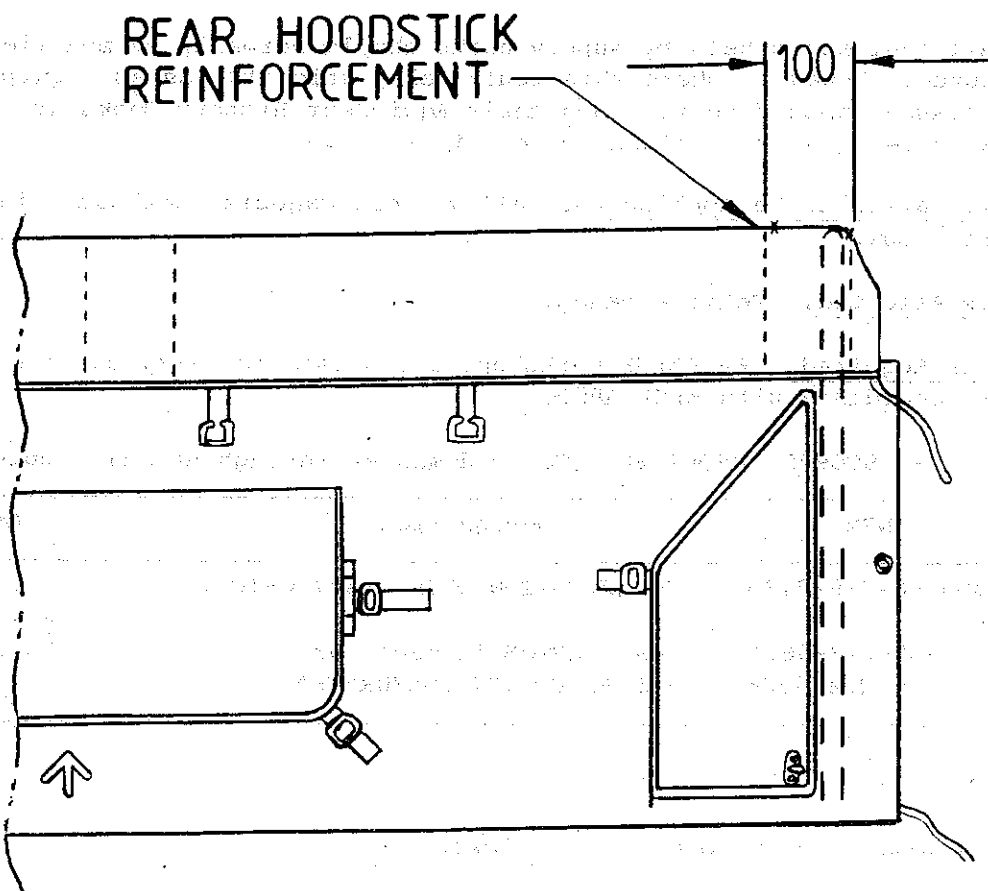

FIG 2 - POSITION OF STRIP RELATIVE TO REAR CANOPY BOW
- c. Sew on strip as shown in FIG 2.